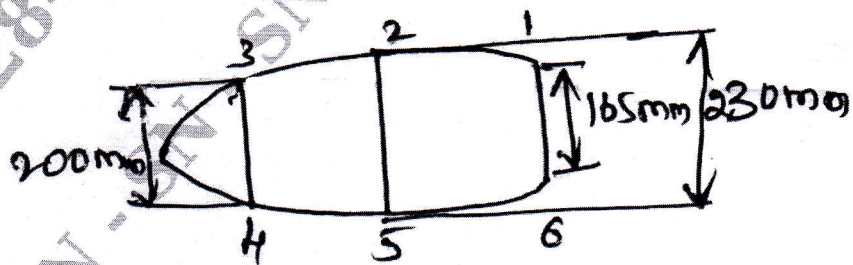

Fig. Q8 (a)
- 8 a. The wing section is shown in Fig. Q8 (a) has been idealized such that Boom's carry all the direct stress, if the wing section is subjected to a bending moment of 300 kNm in a vertical plane. Calculate the direct stress in the Booms.